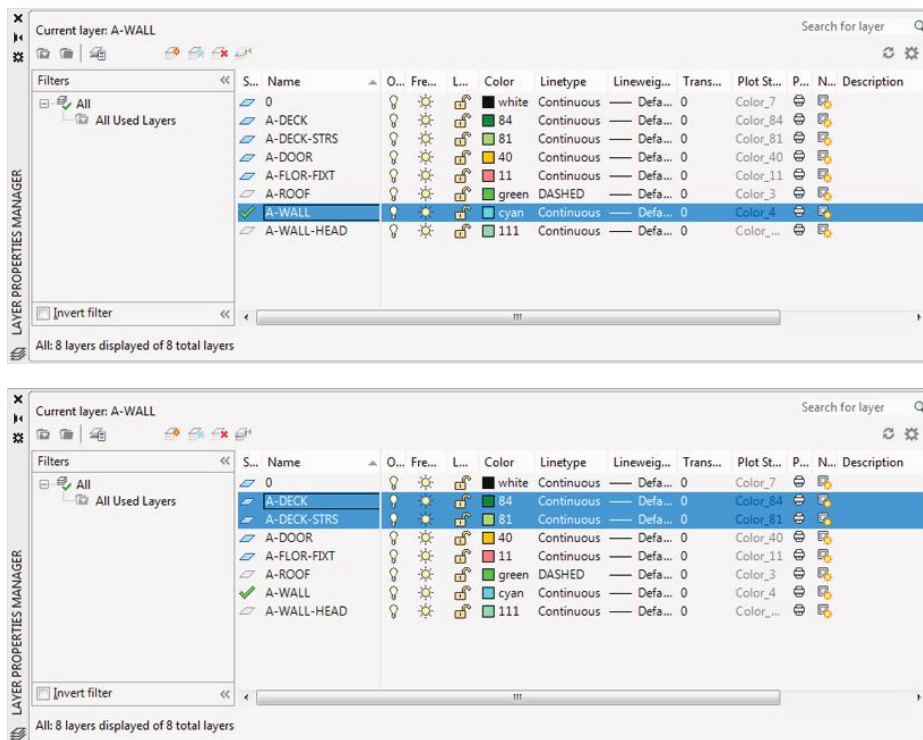

FIGURE 6.32: The layers, now listed alphabetically (top), and after turning off the selected layers (bottom)
Notice that layer 0 is still first in the list and that the other layers have been reorganized alphabetically (see the top of Figure 6.32).
8. Click one of the lightbulbs of the selected layers (see the bottom of Figure 6.32).